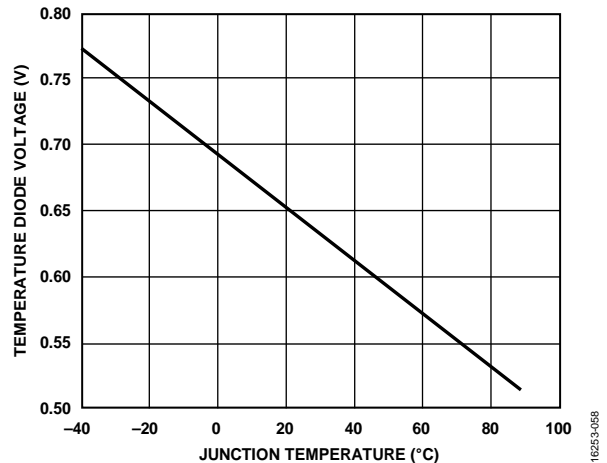

Figure 62. Typical Voltage Response of the 1x Temperature Diode
3. Set Register 0x18E6 to 0x01 to turn on voltage export of the central 1x temperature diode. The typical voltage response of the temperature diode is shown in Figure 62. Although this voltage represents the die temperature, it is recommended to take measurements from a pair of diodes for improved accuracy. The following step explains how to enable the 20x diode.